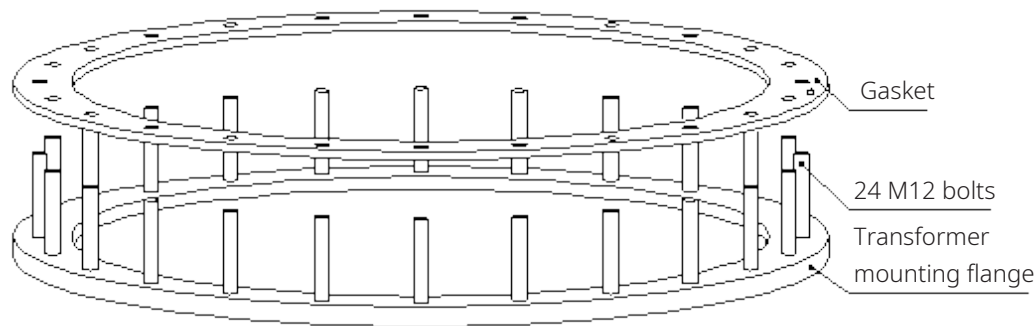

Figure 5-13 Gasket on the Transformer Mounting Flange
- Clean the sealing surface of the transformer mounting flange and install the gasket (see Figure 5-13).